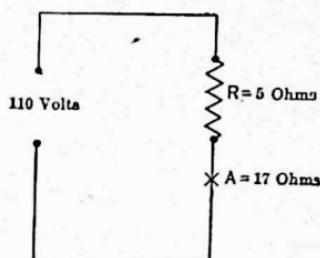

FIG. 29. A coil and arc lamp in series across a 110 volt line.
16. Series Circuit. Voltage. Suppose a coil (R) of 5 ohms resistance, and an arc lamp (A) of 17 ohms resistance are joined in series, as in Fig. 29, across a 110-volt line.